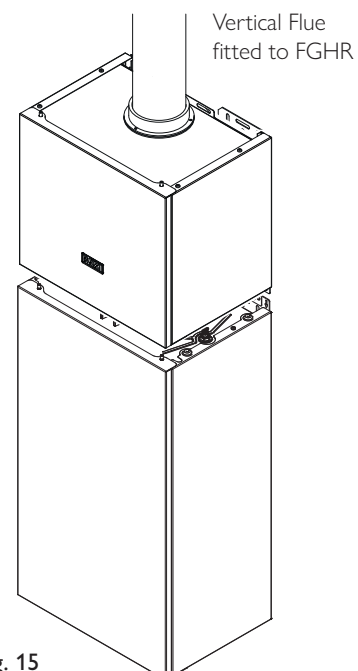

Fig. 15
6. The flue system can now be installed (Fig. 15). The flue adaptor on top of the Assure FGHR is similar to that on the boiler.